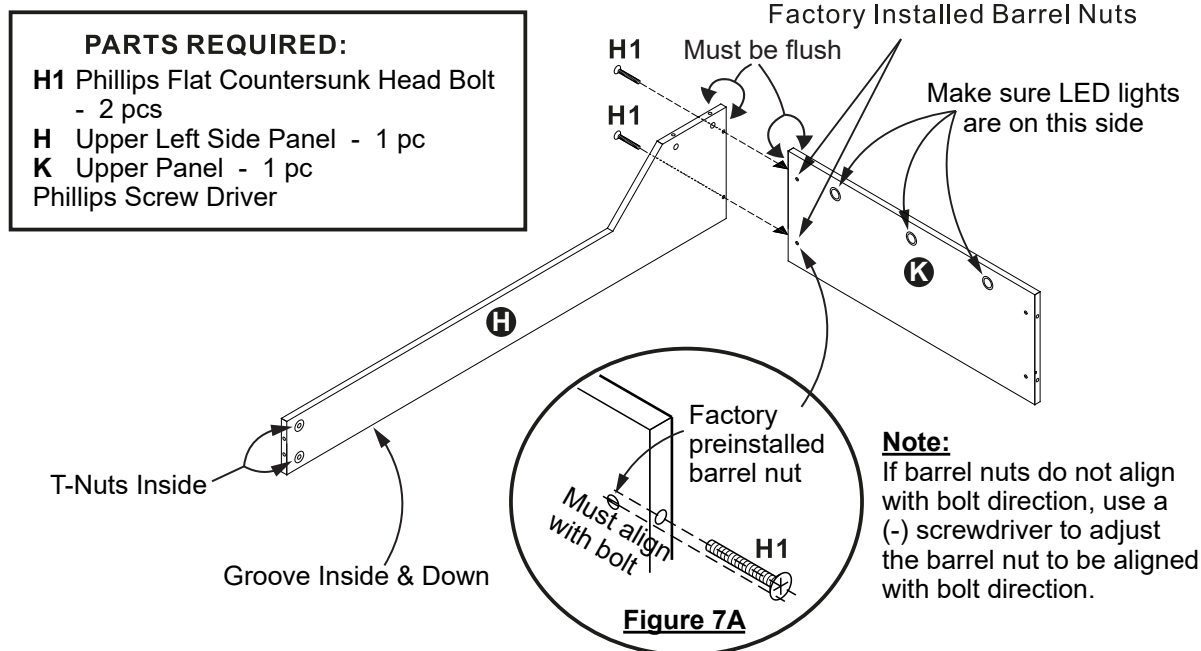

Figure 7
13. Install Part **K** to Part **H** using **H1** Bolts. See **Figure 7**. Factory Preinstalled Barrel Nuts on Part **K** must be aligned to bolt holes for proper installation. See **Figure 7A**. Tighten, but do Not over tighten or strip out **H1** Bolts.